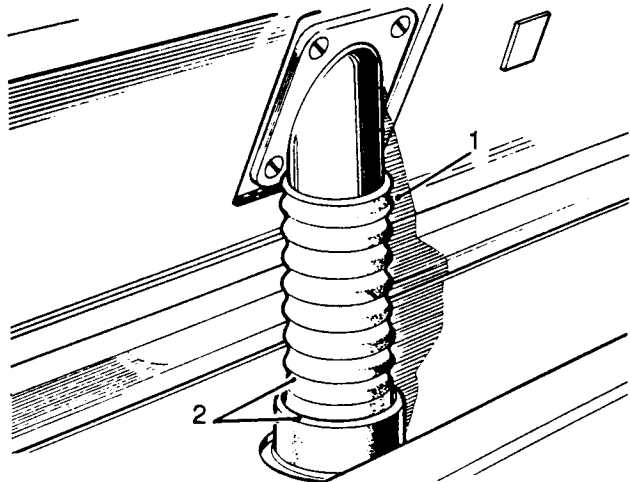

Fig N3.8
- (1) Refer to Fig N3.8. Pull the hose upper end (1) off the nozzle adaptor.
- (2) Withdraw the hose from the rubber connector (2).